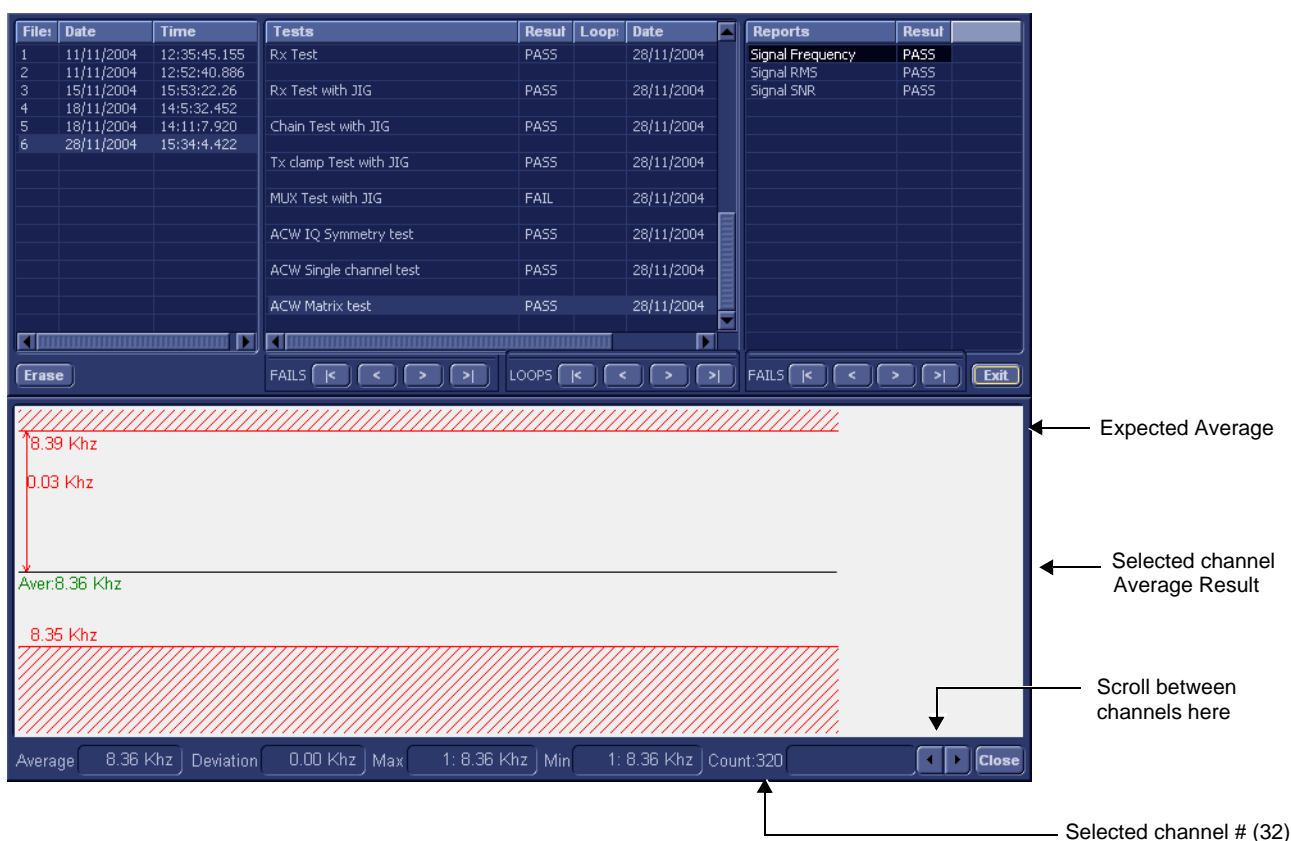

Figure 7-38 View Test Log - ACW Matrix Test - Signal Frequency
- the View Test Log window opens automatically, listing all tests performed and showing details of which tests passed or failed, as shown in the example in Figure 7-38.
Note: The ACW Matrix Test test has three test reports (*Signal Frequency*, *Signal RMS*, and *Signal SNR*) which are listed in the *Reports* window on the right. By default, the *Signal Frequency* report is displayed in the *Reports* window below (Figure 7-38).
The signal should be within the limits marked in the white area (the dotted line represents the Average), as shown in Figure 7-38.